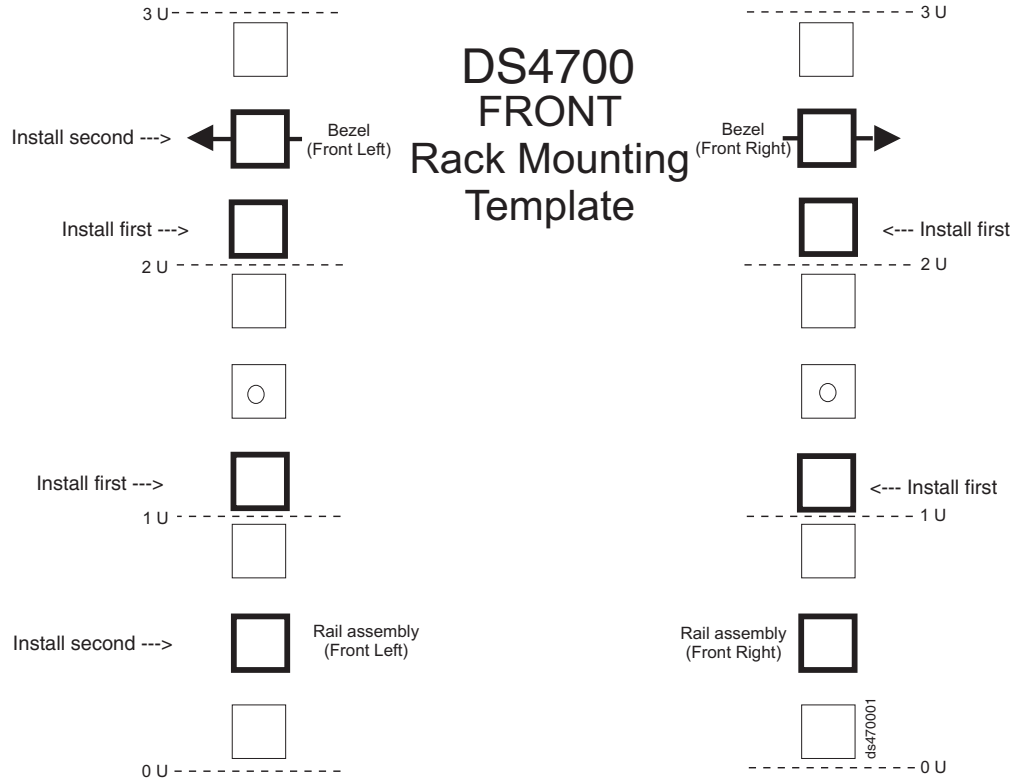
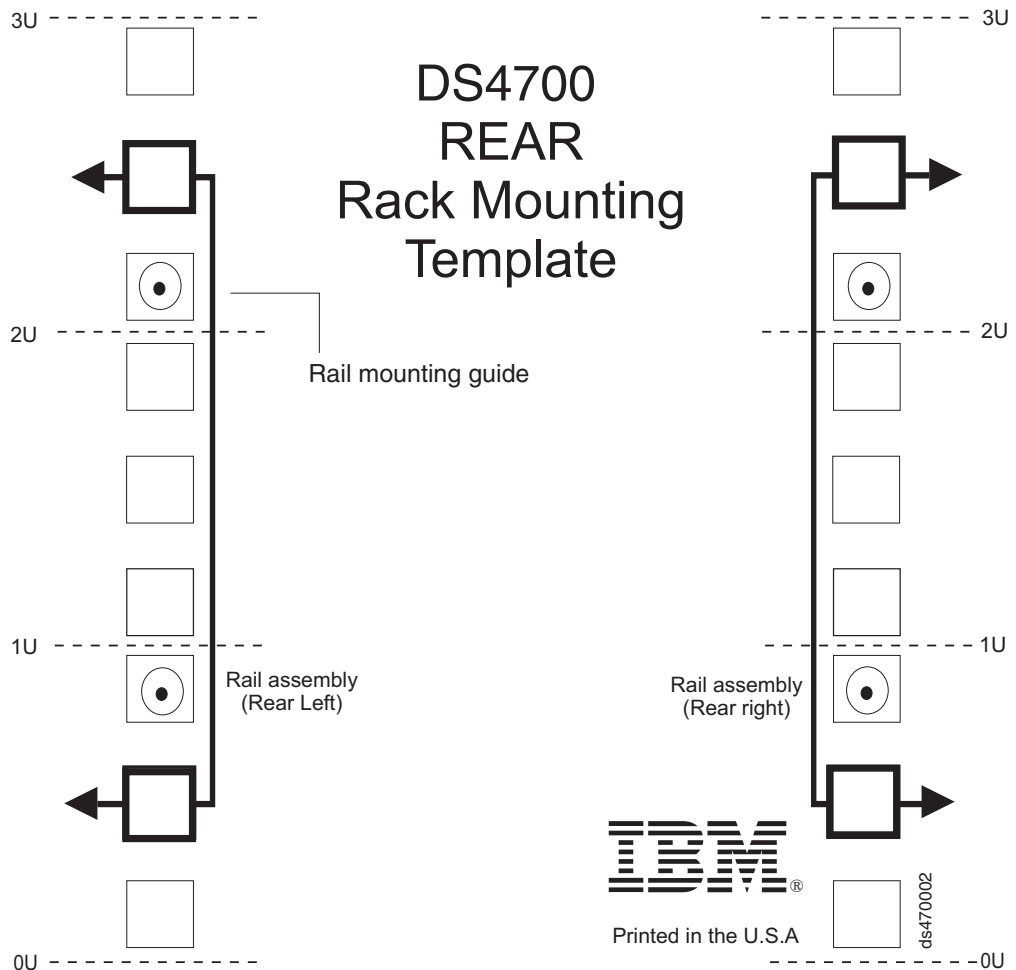

Figure 18. Front rack mounting template
Figure 19. Rear rack mounting template
Use the following templates (Figure 18 on page 37 and Figure 19 on page 38) to identify the proper locations for inserting M5 screws when mounting the support rails and DS4700 Express Storage Subsystem to a rack cabinet. The locations for the M5 screws are highlighted in the templates.
**Attention:** Use the rack mounting template provided in Figure 18 on page 37 and Figure 19 on page 38 to locate the proper rack mounting holes for installing the support rails into the rack.
- The lip on the rail should line up with the bottom of the storage subsystem (the 0U boundary in Figure 19 on page 38).
- Hold the back of the rail against the inside of the rack-mounting flange. Make sure the rail mounting guide pins are in the correct holes. See Figure 19 on page 38 for an illustration.
**Note:** Be sure to install the screw labeled *install first* in Figure 18 on page 37.